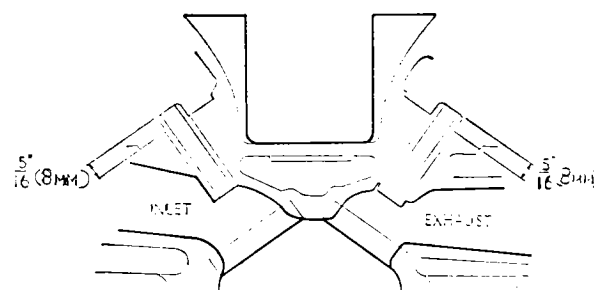

Fig. 67. Showing the fitted position of the valve guides.
- (3) Heat the cylinder head by immersing in boiling water for 30 minutes.
- (4) Coat the valve guide with graphite grease and press in, or drive in with a piloted drift, from the combustion chamber end. The correct fitted position for both inlet and exhaust guides is with the top of the guide (chamfered end) $\frac{5}{16}"$ (8 mm.) above the spot facing for the valve spring seat. (See Fig. 67).